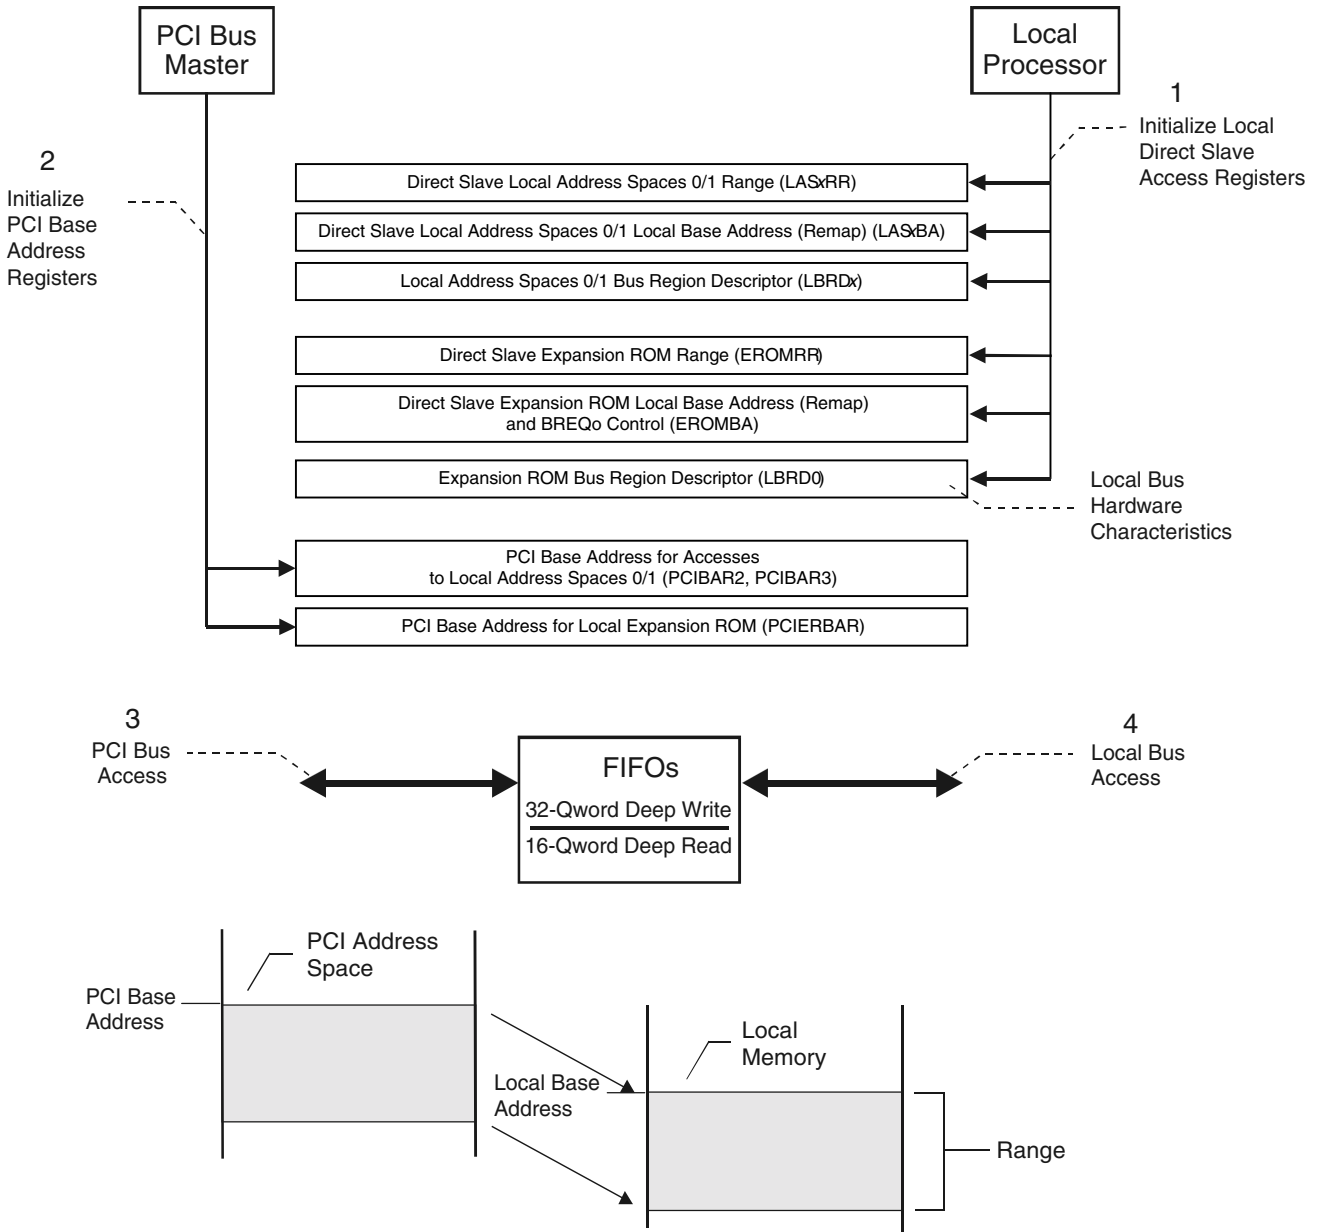

Figure 5-10. Local Bus Direct Slave Access
A fourth register, the Bus Region Descriptor register(s) for PCI-to-Local Accesses (LBRD0 and/or LBRD1), defines the Local Bus characteristics for the Direct Slave regions. (Refer to Figure 5-10.)
After a PCI reset, the software determines how much address space is required by writing all ones (1) to a PCI Base Address register and then reading back the value. The PCI 9656 returns zeros (0) in the “don’t care” address bits, effectively specifying the address space required. The PCI software then maps the Local Address space into the PCI Address space by programming the PCI Base Address register. (Refer to Figure 5-10.)